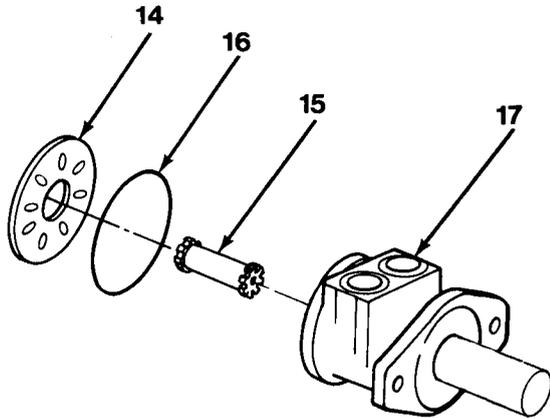
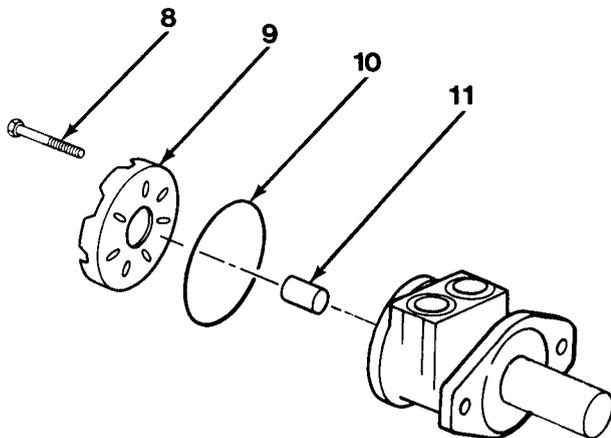

Figure 13-4
Figure 13-2
11. Install new seal (16) in seal groove of housing (17, Figure 13-4).
14. Locate on rotor assembly set (12) the only two spline teeth that are on same center line with two rotor lobes.
15. Take rotor assembly set (12), seal ring (13) and wear plate (14, Figure 13-4) as a unit and align rotor spline teeth from step 14 with drive link (15) spline valley identified in step 10.
16. Install drive link spacer/washer (11, Figure 13-2) into rotor spline cavity onto end of drive link (15, Figure 13-4).
17. Apply a small amount of grease MIL-G-10924 to seal ring (10) and insert seal ring (10) into end cover (9, Figure 13-2) seal ring groove.
18. Install end cover (9) assembly onto rotor assembly set (12) with seal ring (10) against rotor assembly set (12) and align end cover (9) bolt holes with rotor assembly set (12) bolt holes.
19. Install seven bolts (8) finger tight. Torque seven bolts (8) to 22 to 26 lb-ft (30 to 35 N•m).